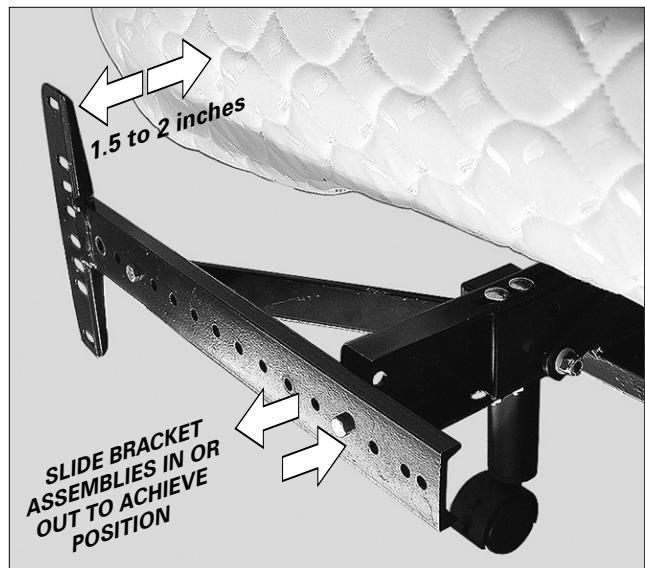

FIGURE 11: Headboard bracket position from the edge of the bed base frame.
- d. Slide headboard bracket assemblies (in or out) to achieve a distance of 1.5 inches (38.1mm) to 2 inches (50.8mm) between the edge of the bed base and headboard bracket flange assemblies (FIGURE 11).